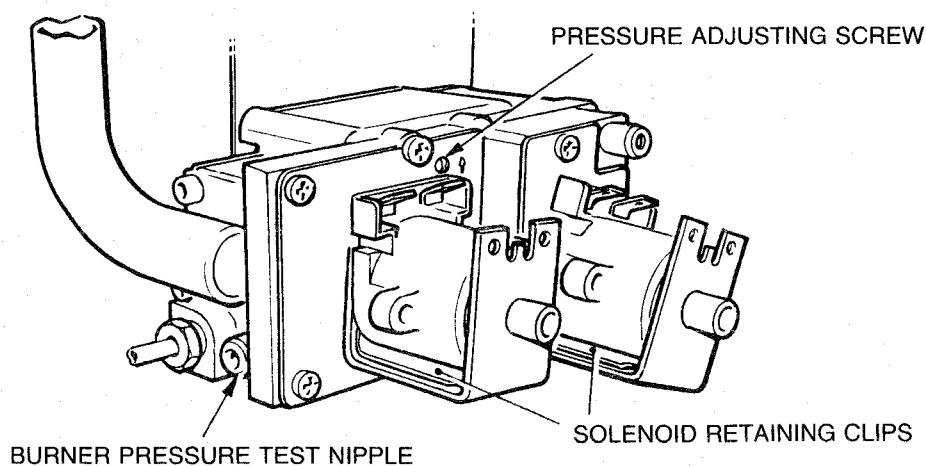

FIG. 14
- (c) Loosen the burner pressure test point on the gas valve (Fig. 14) and connect a suitable pressure gauge.
- (g) The burner pressure must be checked and if necessary adjusted to the correct pressure (Section 2). The adjustment screw is located on the gas valve (Fig. 14).